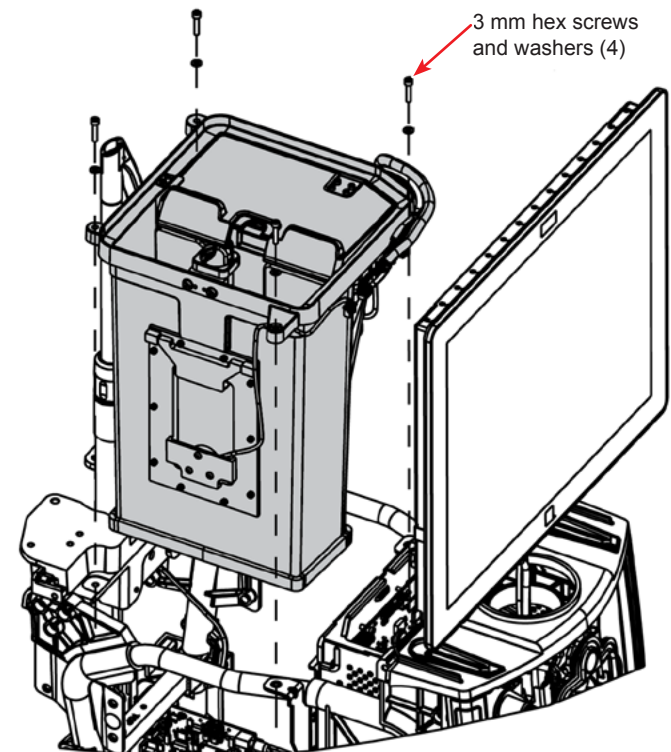

Figure 3-15 Active Irrigation Assembly Removal
- 21.4 Pull AI Assembly up and out of chassis moving the assembly as necessary to gain clearance for removal (see Figure 3-15).